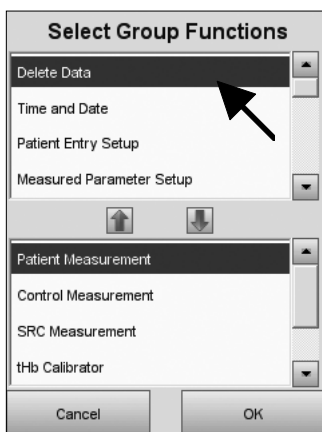

Fig. 3-55 Group Functions
- The top half of the **<Select Group Functions>** screen (Fig. 3-55) displays all available options, the bottom half shows the selected options.